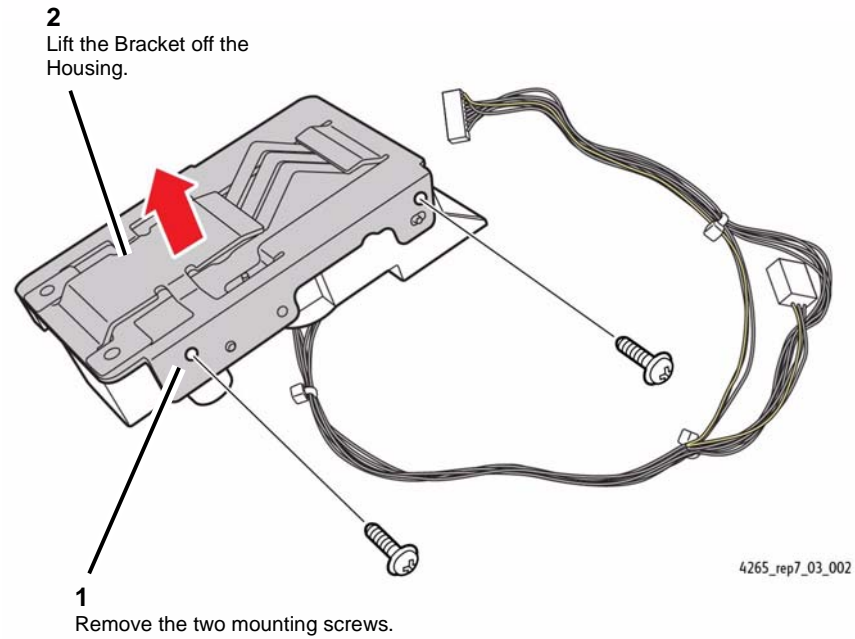

Figure 2 Separating the Bracket from the Housing
5. Separate the Bracket from the Housing (Figure 2).